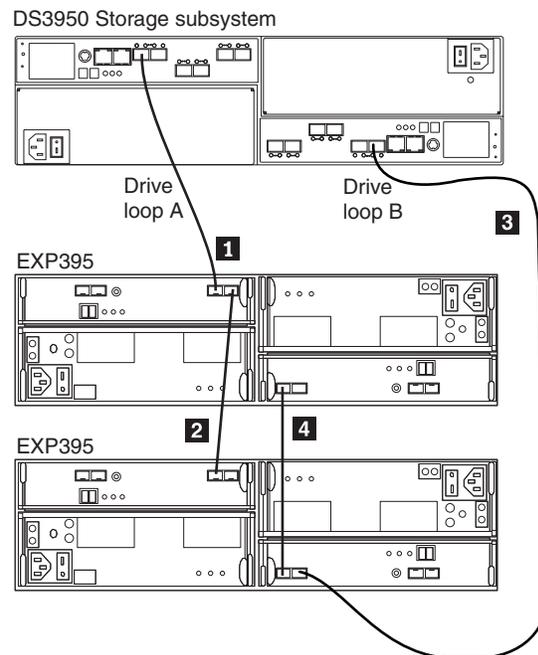

Figure 28. Correct EXP395 redundant drive loop configuration
- The controller drive ports of the DS3950 storage subsystem controllers must always be connected to the ports labeled 1B in both right and left ESMs of the EXP395s in the redundant drive channel/loop pair that is connected to the DS3950 storage subsystem. (Figure 28 on page 42 shows the location of the ports.)
Figure 28 shows a redundant drive loop that you might create with a DS3950 storage subsystem and two EXP395s. The numbers provided in Figure 28 show the order in which cables should be attached. Note that the controller port is connected to the port labeled 1B on both the right and left ESMs.
To create drive loop A (of the DS3950 redundant drive loop) shown in Figure 28, you would perform the following steps:
To create drive loop B (of the DS3950 redundant drive loop) shown in Figure 28, you would perform the following steps: